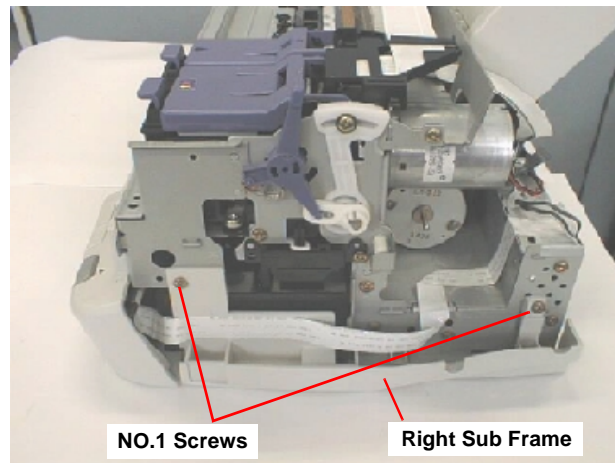

Figure 4-12. Removing the Right Sub Frame
- 3) Remove two screws (No.1) securing the Right Sub Frame. Refer to Figure 4-12.